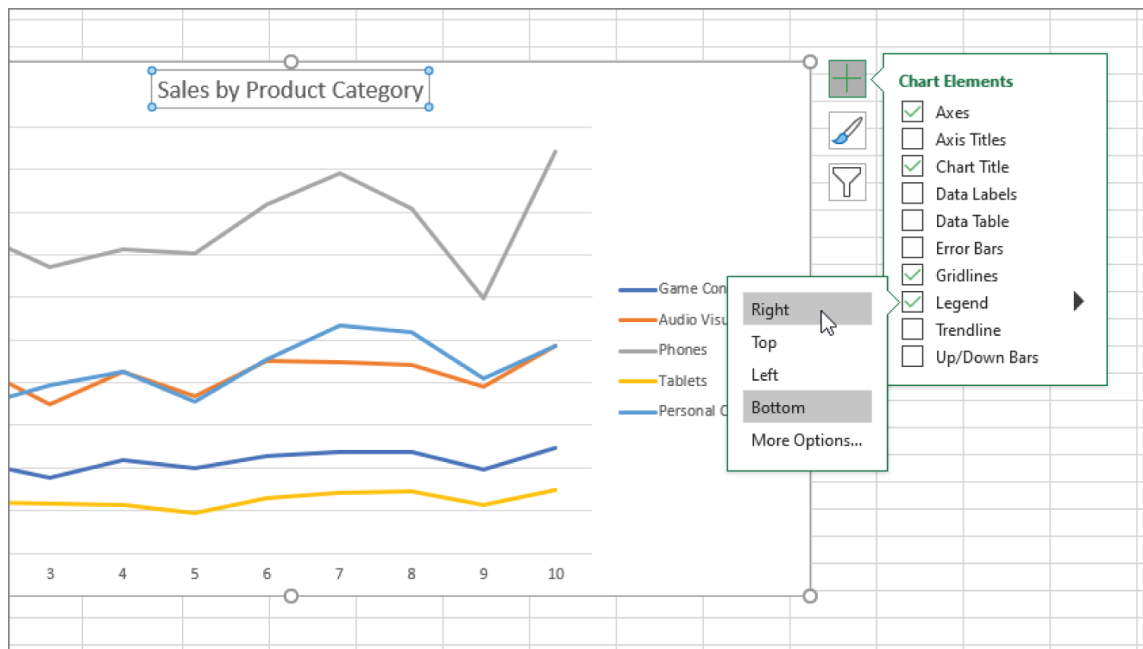

Figure 9.8: The onscreen dialog
2. On the on-chart Chart Elements tool, choose Legend and Right to move the legend to the right side of the chart. Figure 9.8 shows the onscreen dialog.